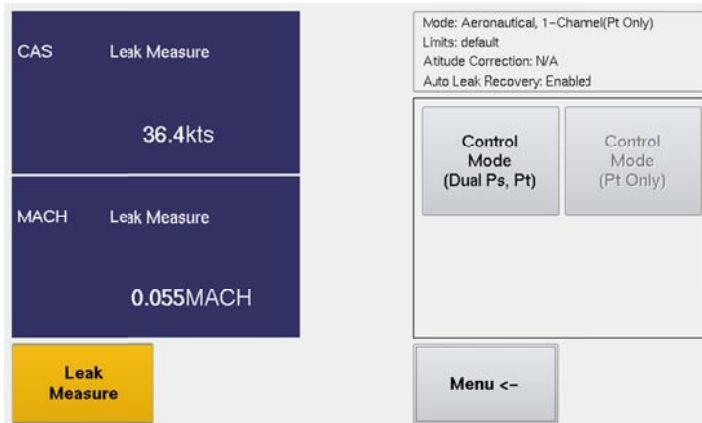

Figure 19 Optional 1-Channel (Pt Only) Mode
- (2) Aeronautical 1-Channel (Pt Only) (Figure 19)